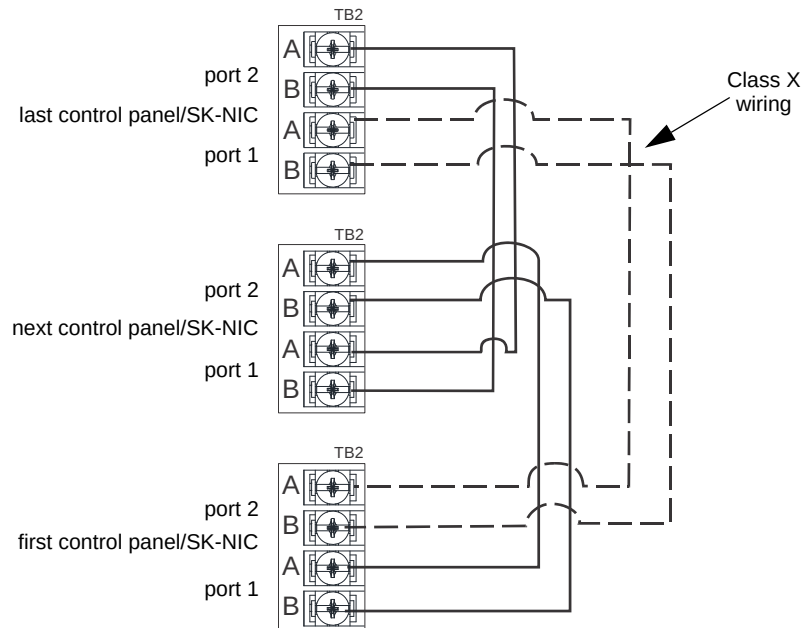
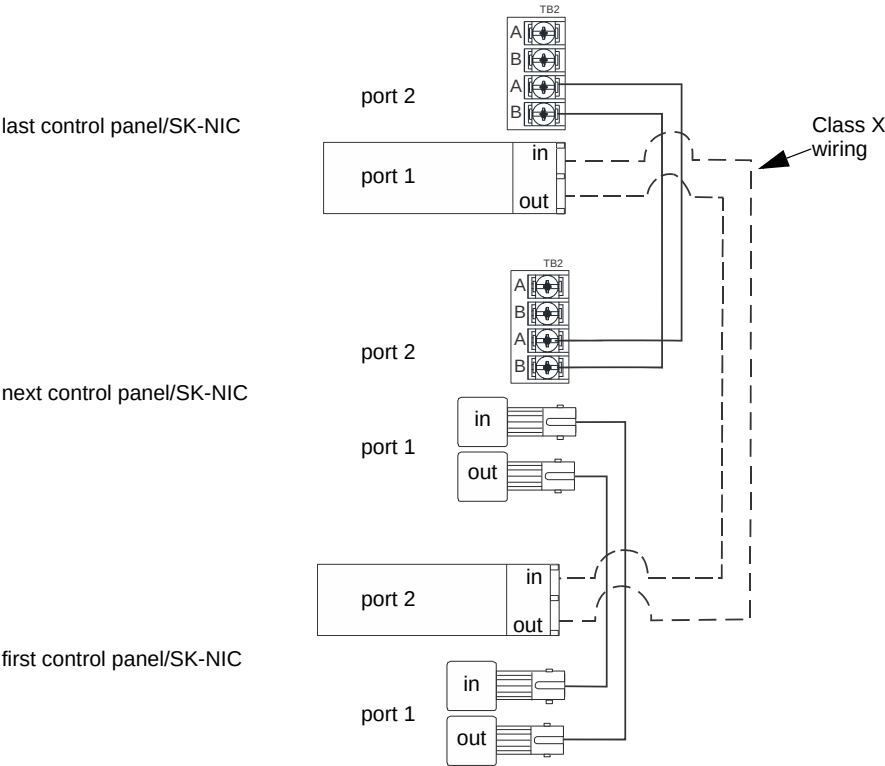

Figure 5.6 Twisted Pair Wiring Configuration
Figure 5.9 Twisted-Pair and Fiber-Optic Combination Wiring Example
5. Based on the type of data medium chosen, run the twisted pair wiring/fiber-optic cable to the next SK-NIC using a Class B or Class X wiring method. A combination of both medium types can be used. See Figure 5.6 through Figure 5.9 for SK-NIC wiring examples.
Unshielded twisted-pair wiring between multiple panels is shown in Figure 5.6. Class X wiring is shown with a dotted line.
A mixture of fiber-optic cable and twisted-pair wiring between multiple panels is shown in Figure 5.9. Class X cabling is shown with a dotted line.